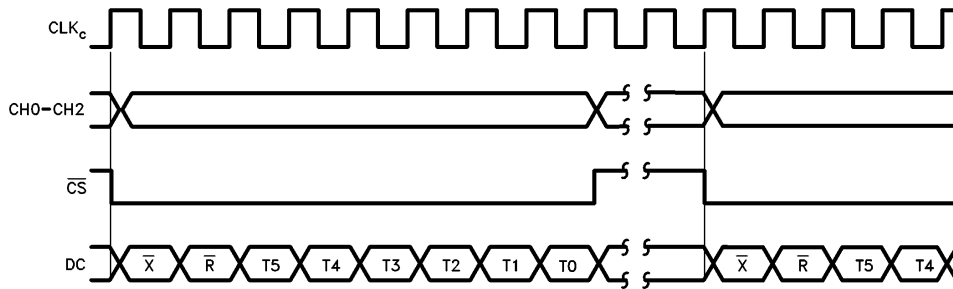

FIGURE 2. Control Data Timing
*Figure 2* shows typical timing for the control data interface.